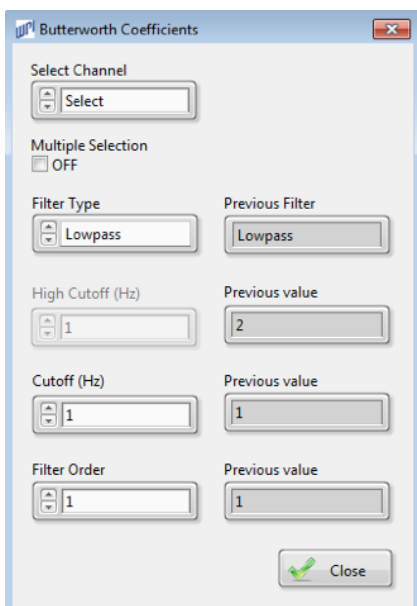

Fig. 65—The Butterworth Coefficient window lets you set the parameters of your filter.
1. To apply a Butterworth filter, click on the **Filter** menu (of the *Analysis* window) and select **Butterworth**. The *Butterworth Coefficients* window appears (Fig. 65).